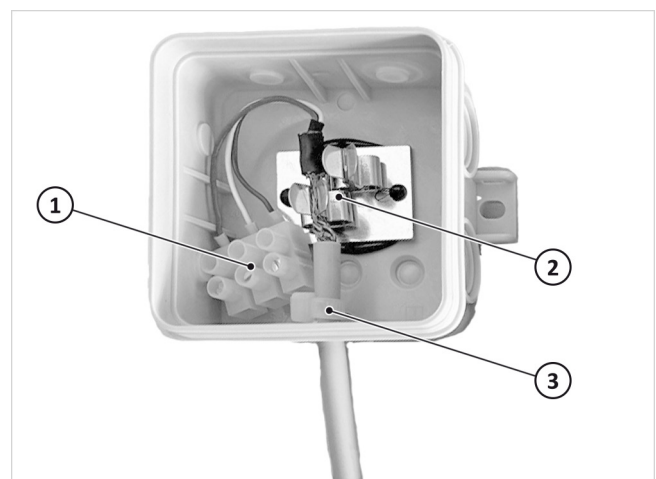

Fig. 116: Attaching the Modbus junction box
- Use the cable ties supplied for strain relief of the cables to the heating pump as illustrated in *Fig. 116 (3)*.